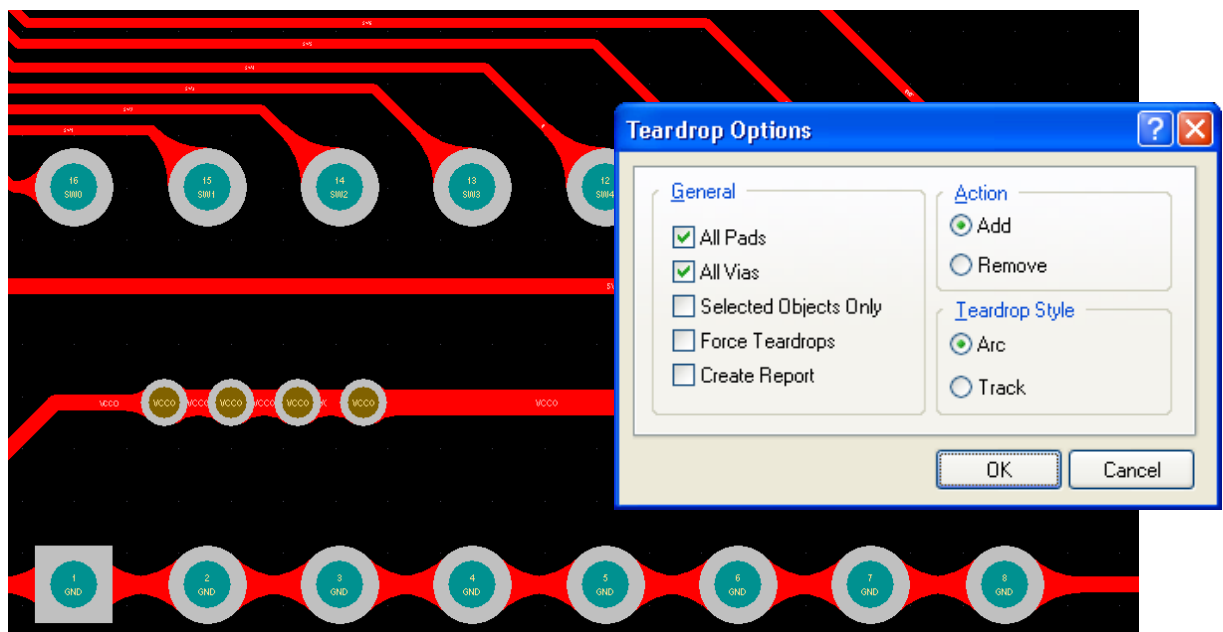

Figure 18. Teardrops build up the copper at each track entry to pads and vias.
- Options are configured in the **Teardrop Options** dialog (Figure 18).